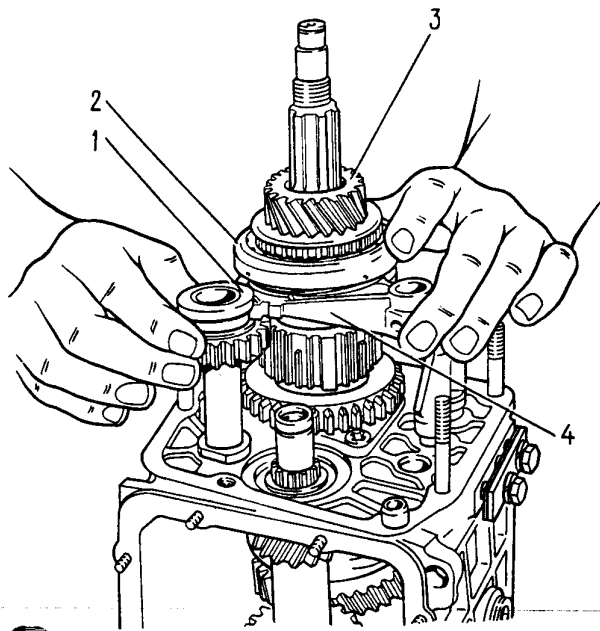

Fig. 3-35. Removing Reverse Idler Gear and 5th Speed Gear Complete with Synchronizer and Fork:
Remove reverse idler gear 1 (Fig. 3-35) from the axle and gear 3 complete with the sleeve and shift fork 4 from the main shaft.
- install simultaneously reverse idler gear 1 (Fig. 3-35), gear 3 and fork 4;